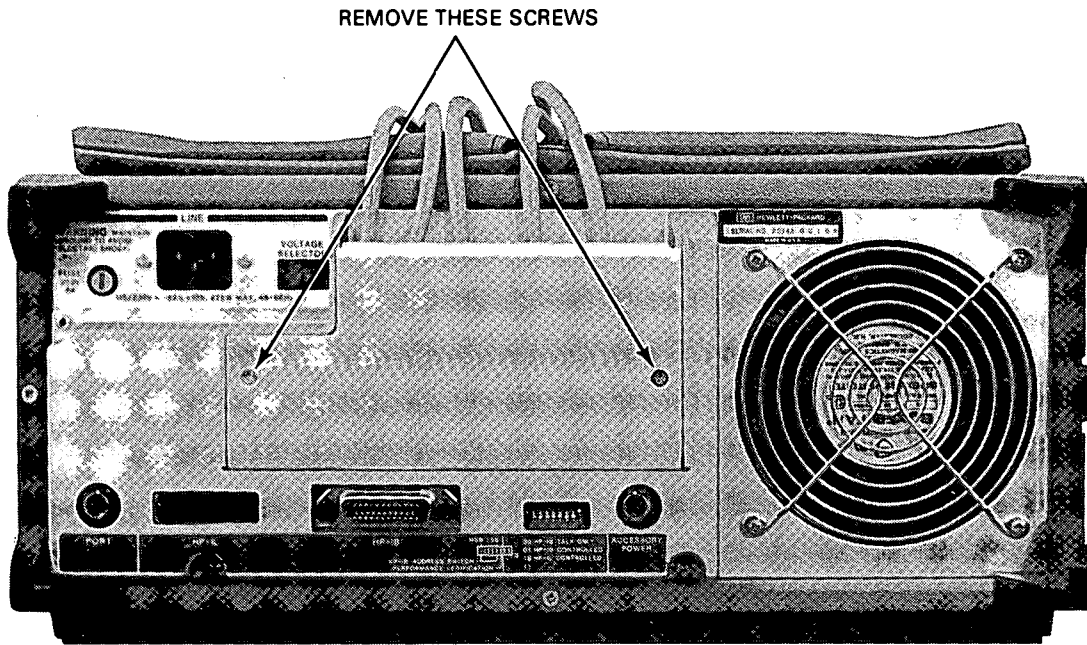

Figure 8-2.
- b. Completely remove the two screws that secure the rear door. See figure 8-2.